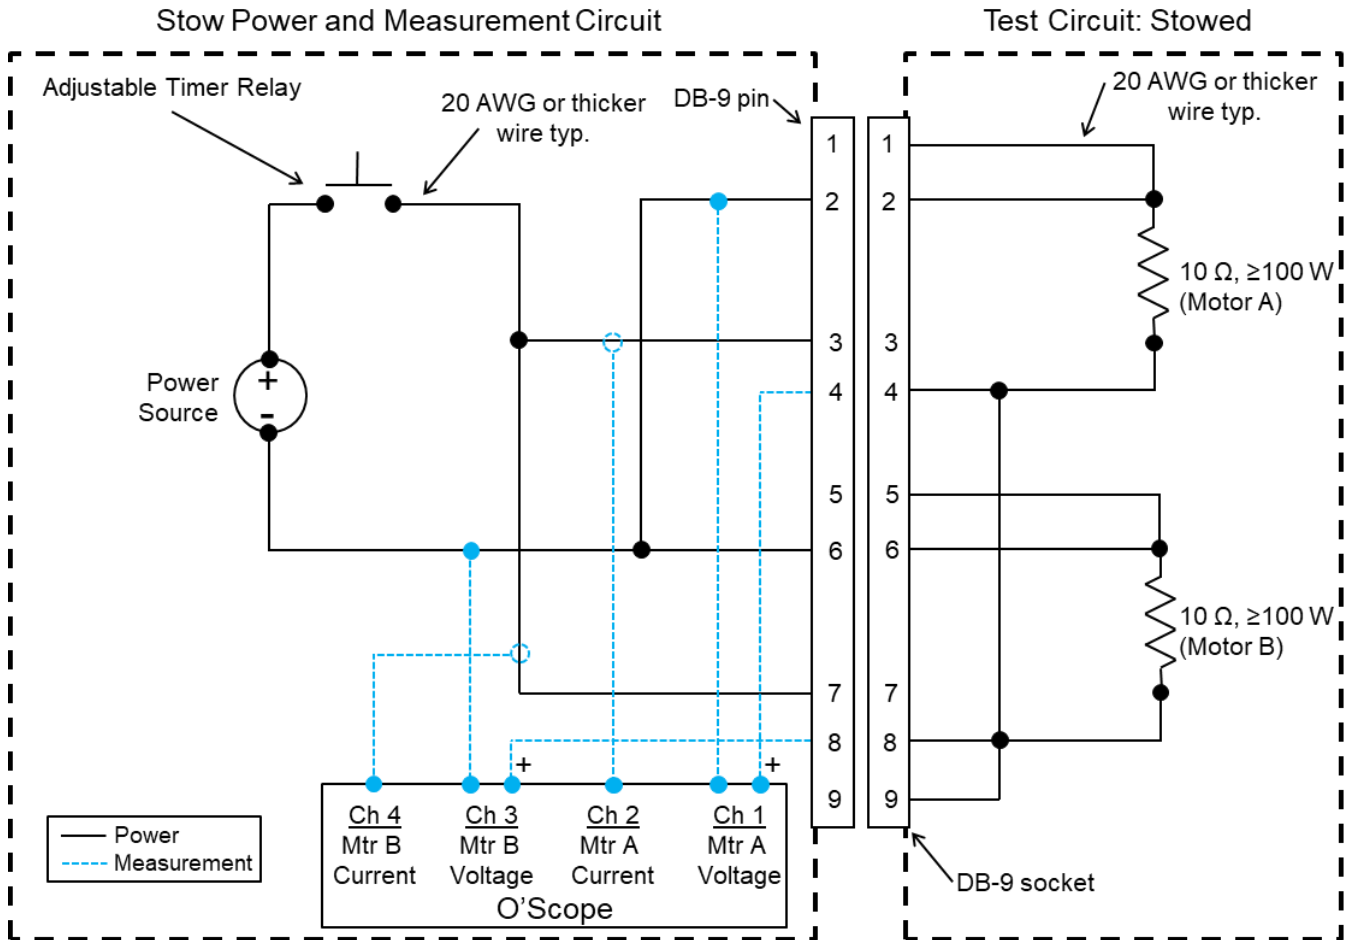

Figure 9-3: Stow test circuit #3
9.3.1	Set up the Test Circuit: Stowed portion of Stow Test Circuit #3 per Figure 9-3 and connect to the Stow Power and Measurement Circuit .